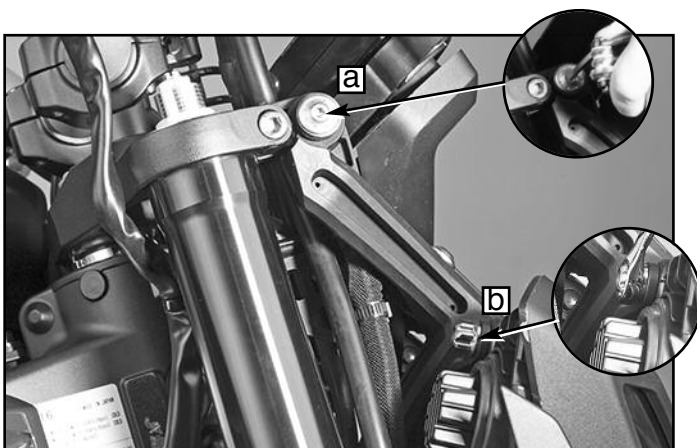

Figure 1
1. On the right side of the motorcycle, remove the upper hex screw (a) **(5mm Hex Key)** and lower nut (b) **(12mm open end wrench)** from the side of the headlight bracket. Hardware will be re-used. **Figure 1**